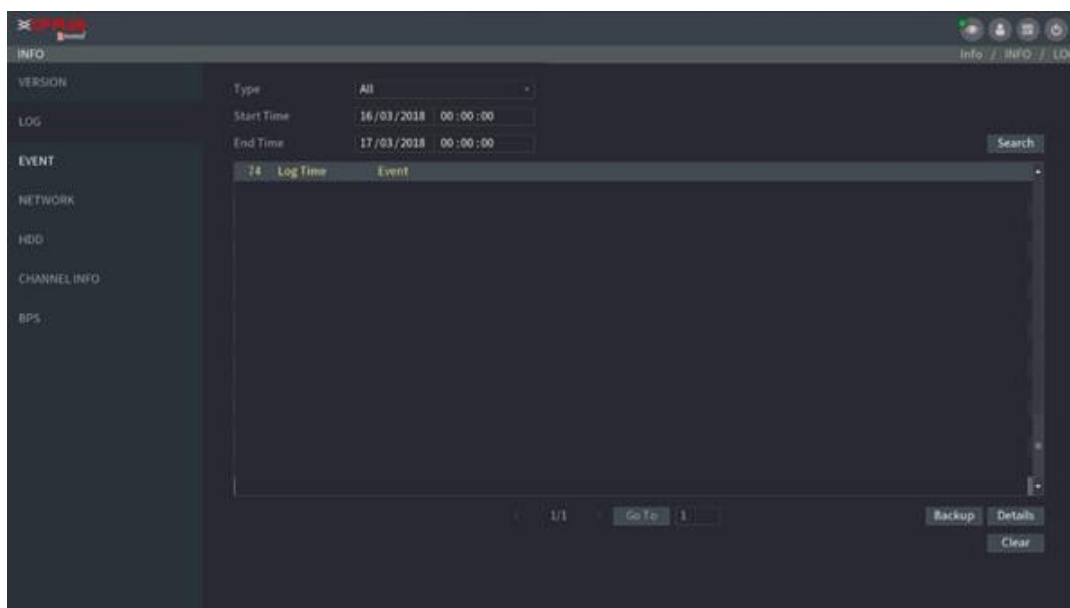

Figure 5-238
**Step 1** Select **Main Menu** → **INFO** → **LOG**, the **LOG** interface is displayed. See Figure 5-238.